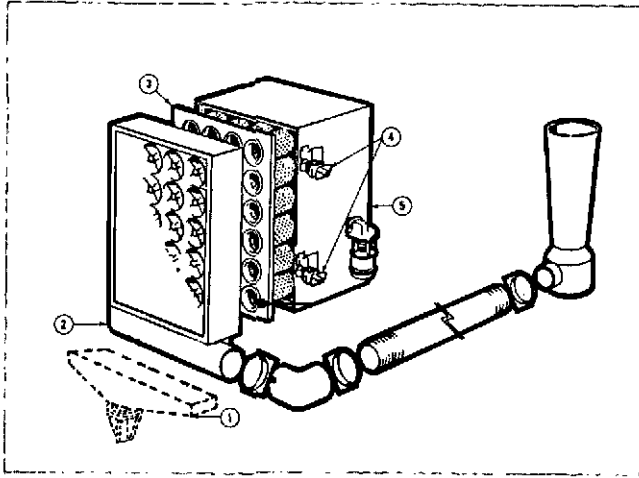

Fig. 5-18, N21026. Air cleaner — cartridge type (two stage) with exhaust aspirator or dust bin (dotted lines)
1. Loosen wing nuts (4, Fig. 5-18) on air cleaner housing
2. To install a new cartridge, hold cartridge (3, Fig. 5-18) in same manner as when removing from housing (5). Always inspect inside of air cleaner housing keeping it free of all foreign material. Insert clean cartridge into housing; avoid hitting cartridge tubes against sealing flange on edges of air cleaner housing.
4. Replace pre-cleaner panel (2) and tighten wing nuts (4) by hand, for final tightness turn 1-1/2 to 2 turns with a small adjustable wrench. On pre-cleaner with exhaust aspirator, assembly aspirator tube to pre-cleaner panel and tighten "U" bolt.